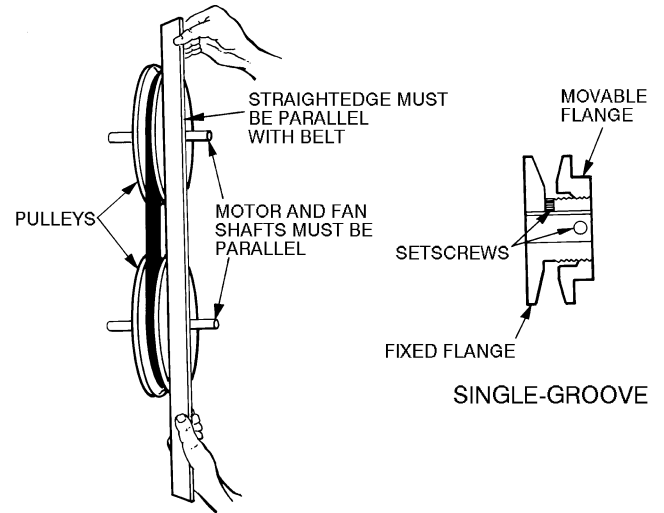

Fig. 38 — Evaporator-Fan Pulley Adjustment
3. Loosen movable pulley flange setscrew (see Fig. 38).